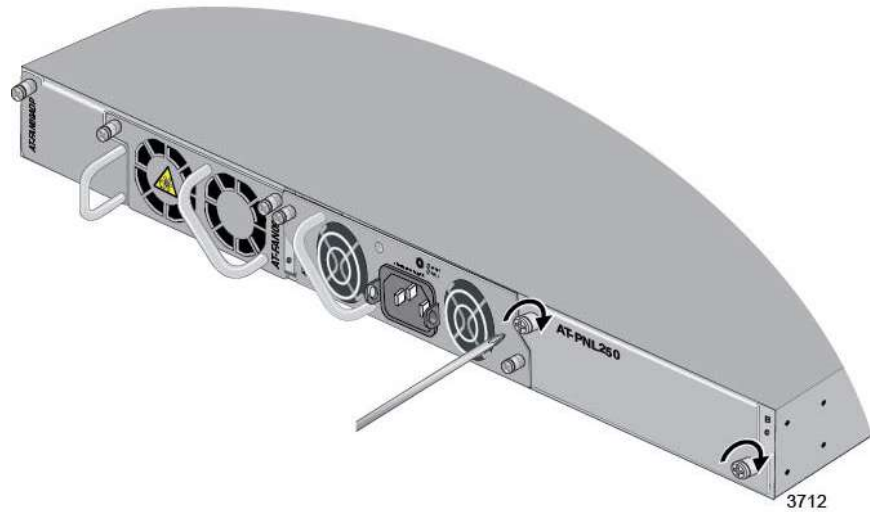

Figure 27. Tightening the Captive Screws on the Power Supply Blank Panel
2. Tighten the two captive screws with a cross-head screwdriver to secure the panel to the switch. Refer to Figure 27 on page 73.